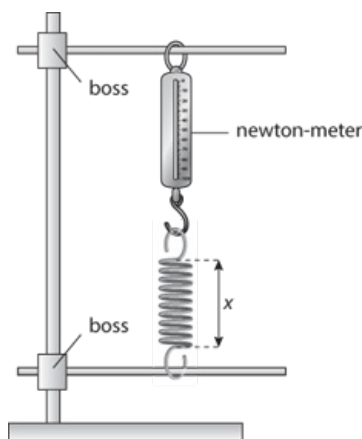

Figure 1.4: Spring between two rods, with newton-meter.
- 1 Set up the apparatus as shown in Figure 1.4. Use the same spring as you used in Part 1.